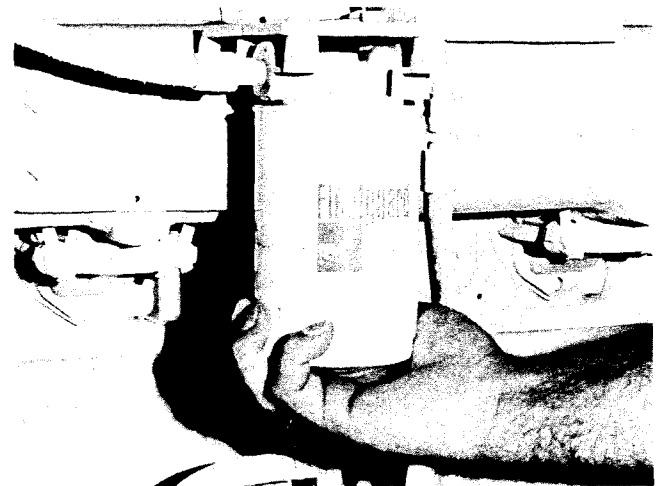

Fig. 5-7. Removing turbocharger oil filter
1. Unscrew element and discard. Fig. 5-7.